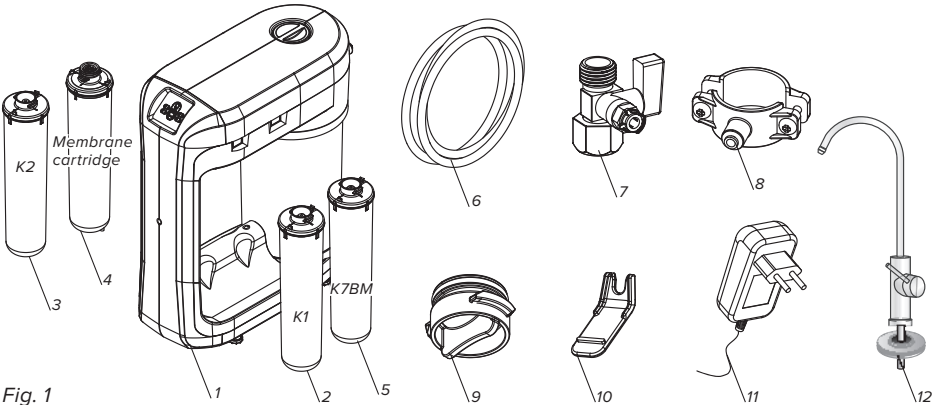

Fig. 1
3. Scope of Delivery (Fig. 1):